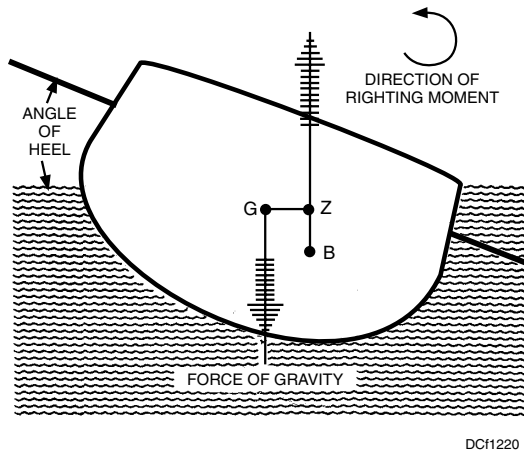

Figure 12-20. Development of righting moment when a stable ship inclines.
If you study figure 12-20, you will notice that a RIGHTING or RESTORING MOMENT is present. This righting moment is caused by the two equal and opposite forces, each of W tons (displacement) magnitude, separated by a distance GZ, which constitutes the LEVER ARM OF MOMENT. Figure 12-20 shows that the ship is stable because the center of buoyancy (B) has shifted far enough to position the buoyant force where it tends to restore the ship to an even keel or an upright position.
A moment is the product of a force tending to produce a rotation about an axis times its distance from the axis. If two equal and opposite forces are separated by a distance, the moment will become a couple which is measured by ONE of the forces times the distance that separates them. The RIGHTING MOMENT of a ship is therefore the product of the force of buoyancy times the distance GZ (fig. 12-20) that separates the forces of buoyancy and gravity. It may also be expressed as the force of gravity (weight of the ship) times GZ. The distance GZ is known as a ship's RIGHTING ARM. Putting this into mathematical terms, you have the following: